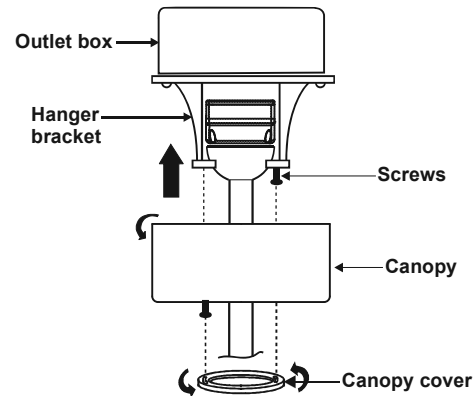

Figure 13
2. Slide the canopy up to hanger bracket and place the key hole on the canopy over the screw on the hanger bracket, turn canopy until it locks in place at the narrow section of the key holes. (Fig. 13)